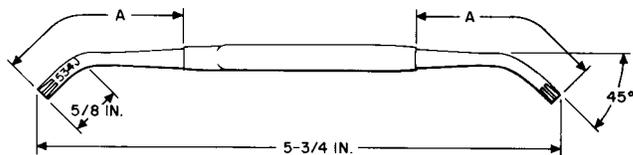

Fig. 8—534J Adjuster Tool
2.08 534J: The 534J tool (Fig. 8) is a spring adjuster used on AM-type relays. The slot width is 0.025 inch and the "A" dimension is 1-9/16 inches.